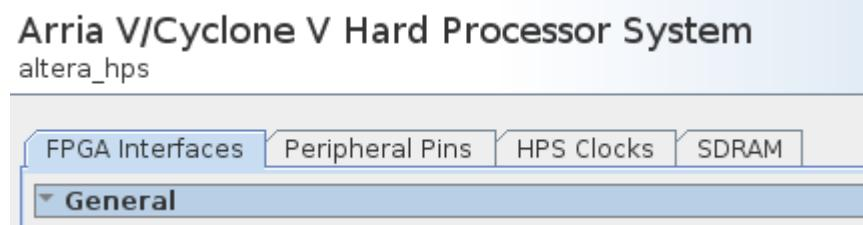

Figure 9-3. HPS Component Parameters
14. Open the HPS’ parameters and have a look around. There are 4 tabs that control various aspects of the HPS’ behaviour, as shown on Figure 9-3.